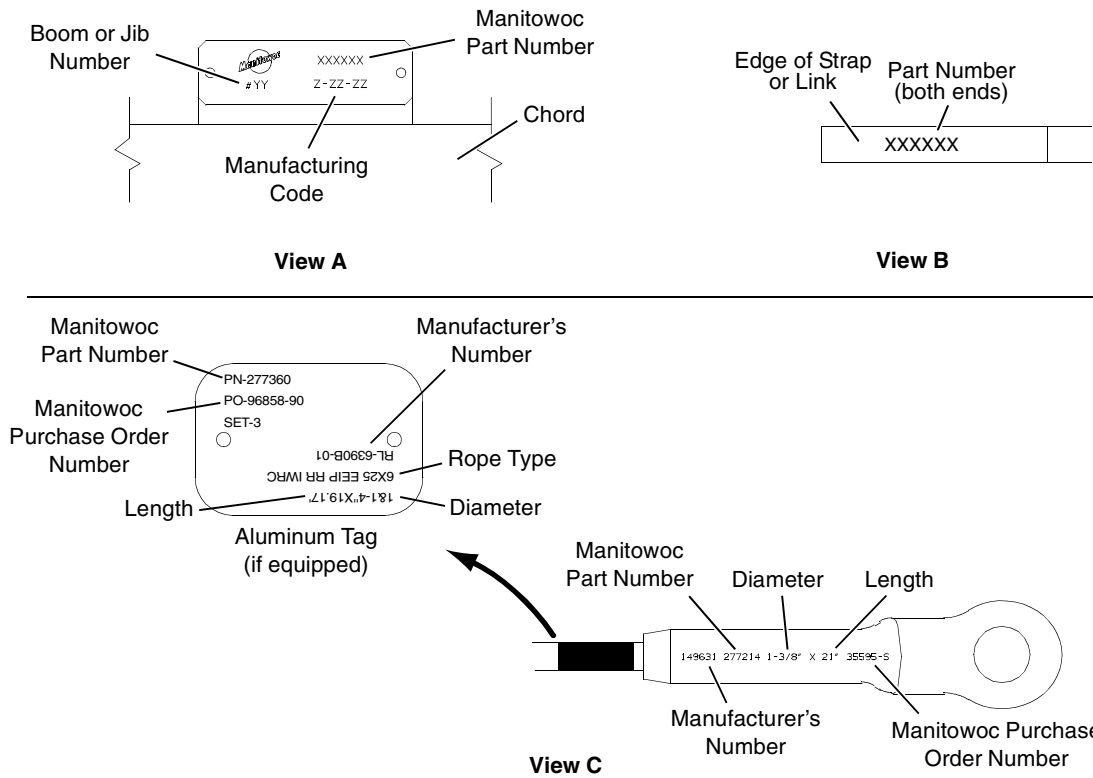

FIGURE 4-4
Jib sections are marked for proper identification as shown in Figure 4-4, View A (all four chords of each boom or jib section).
Straps and connecting links are marked for proper identification as shown in Figure 4-4, View B.
Pendants (when used) are marked for proper identification as shown in Figure 4-4, View C.
2. Reinstall proper number of removable lacings in each insert with bolts and stop nuts as shown in Figure 4-4.
2. Check that removable diagonal lacings are securely fastened to each jib insert (see Removable Lacings – #44 Jib topic and Figure 4-4).